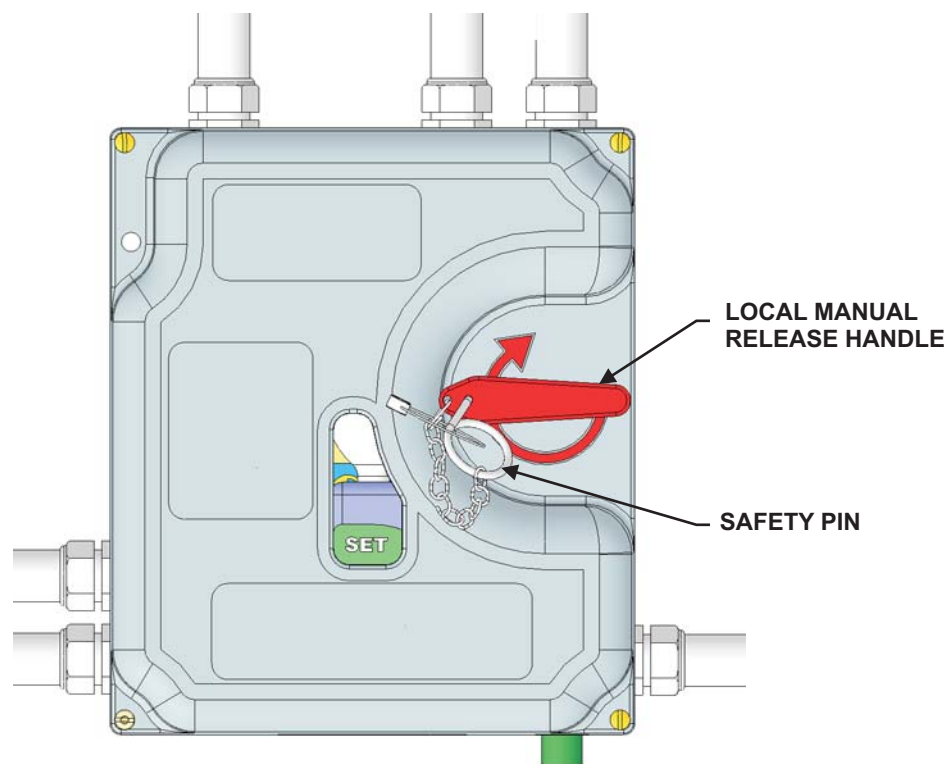

Figure 5-1. XV Control System, Outside View
<input type="checkbox"/>	If wall mounted, the XV Control System must be tightly bolted to the wall. If cylinder mounted, the XV Control System must be tightly bolted to the SVA. The Cam/Flag on the XV Control System indicator should point to the ‘Set’ position. The safety pin and seal wire on the local manual release handle should be in place. Refer to Figure 5-1. If no Remote Manual Release (P/N 875572) is installed, the path to the local manual release on the cylinder should be clear and unobstructed and within reach.
2. Operate the Remote Manual Release by pulling the safety pin located on the Remote Manual Release, and then pulling on the release handle (refer to Figure 5-1).